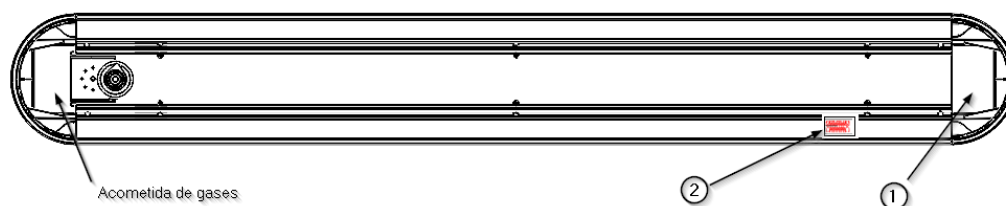

Fig.10 Detail of the electrical connection points at N270
The electrical, voice and data circuits enter the equipment through a window (1) located next to one of the side walls. The electrical circuits terminate in a common terminal block (2), except for voice and data, which are connected directly to the corresponding mechanism. See figure 10.